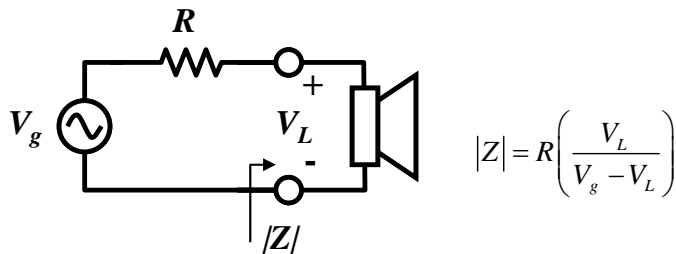

Figure 1-6 – Speaker test circuit
- Electrically connect your speaker to the function generator as shown in Figure 1-6, using a small resistor R in series with the speaker (something around $50\ \Omega$, or two $100\ \Omega$ resistors in parallel, seems to work well). This creates a voltage divider, so that the voltage across the speaker is proportional to the magnitude of its impedance. Thus by measuring V_g and V_L we can map out the variation of impedance with frequency using the formula in Figure 1-6.